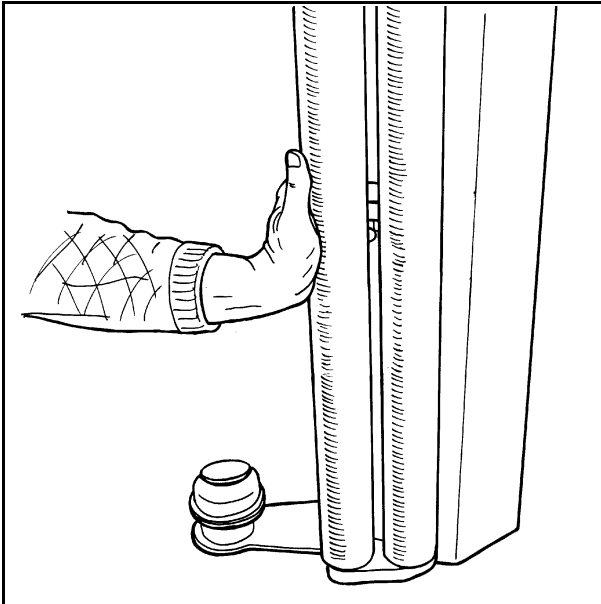

Fig. 6-1
- 6.1 When the plastic roll shall be mounted, you have to hold the prestretcher-rollers aside. Push the rollers to the side and hold inn place with each of the locking springs. (See fig. 6-1).